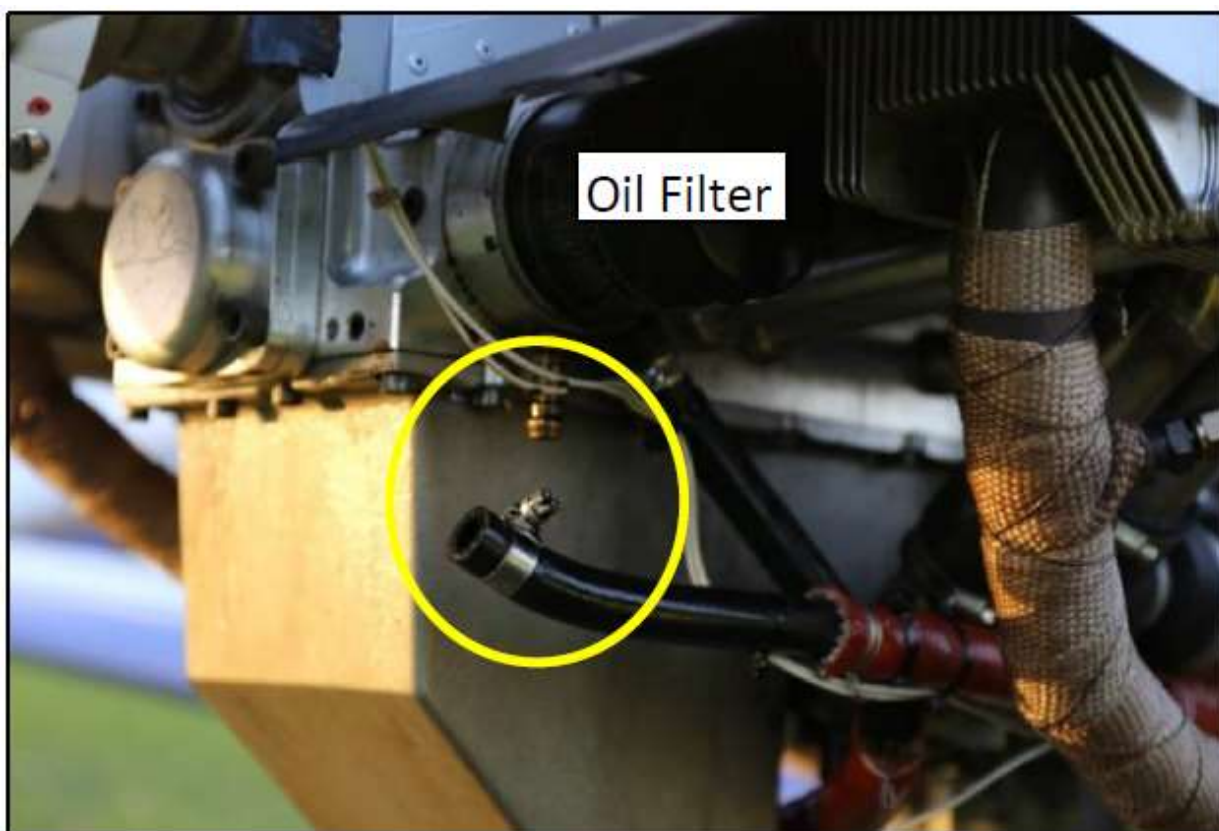

Figure 1 - Oil cooler hose detached in flight
- The resulting investigation conducted by overseas airworthiness authorities found that one of the hoses running from the oil cooler had detached from the oil cooler adapter (see Figure 1). The oil cooler hoses were fitted using standard worm drive hose clamps. **An unidentified brand of oil hose had been used.**